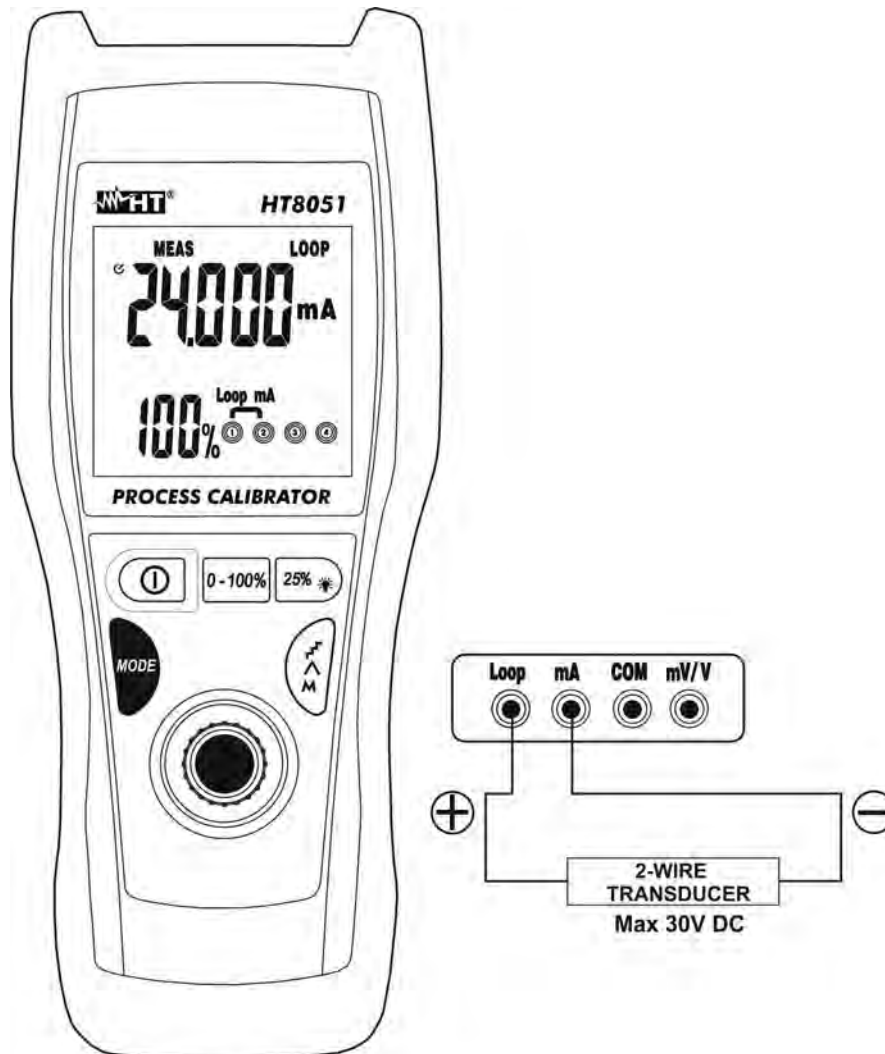

Fig. 7: Measuring output DC current from external transducers (Loop)
4. Connect the green lead and the black lead to the external transducer, respecting current polarity and direction (see Fig. 7).
6. The message "**-OL-**" indicates that the current being measured exceeds the maximum value measurable by the instrument. To generate a negative voltage value, turn the measuring leads in the opposite direction with respect to the connection in Fig. 7